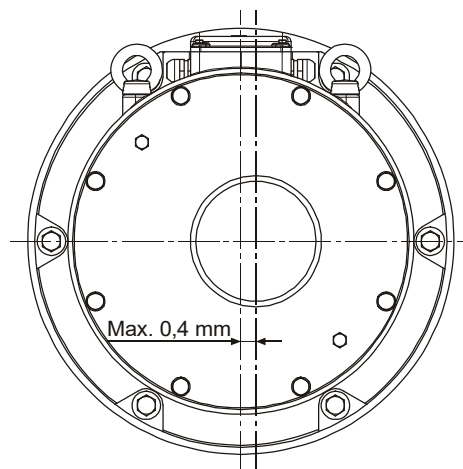

Fig. 4
- ❑ The eccentricity of the shaft end in relation to the mounting pitch circle must not exceed 0,4 mm (Fig. 4).